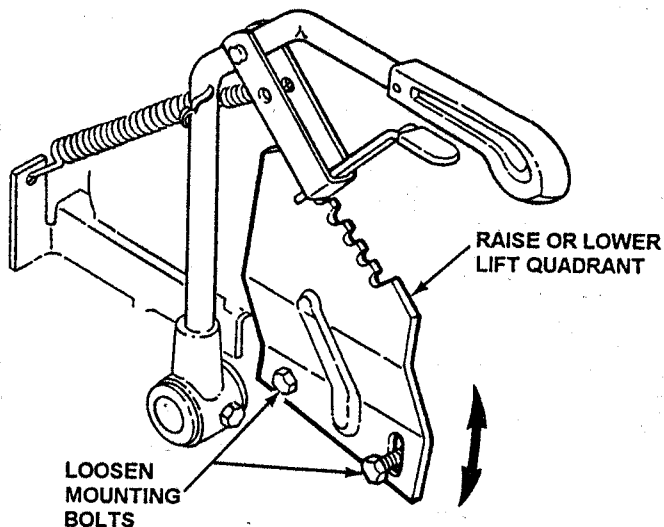

FIGURE 4.12
3. Loosen the two lift quadrant mounting bolts. See Figure 4.12.